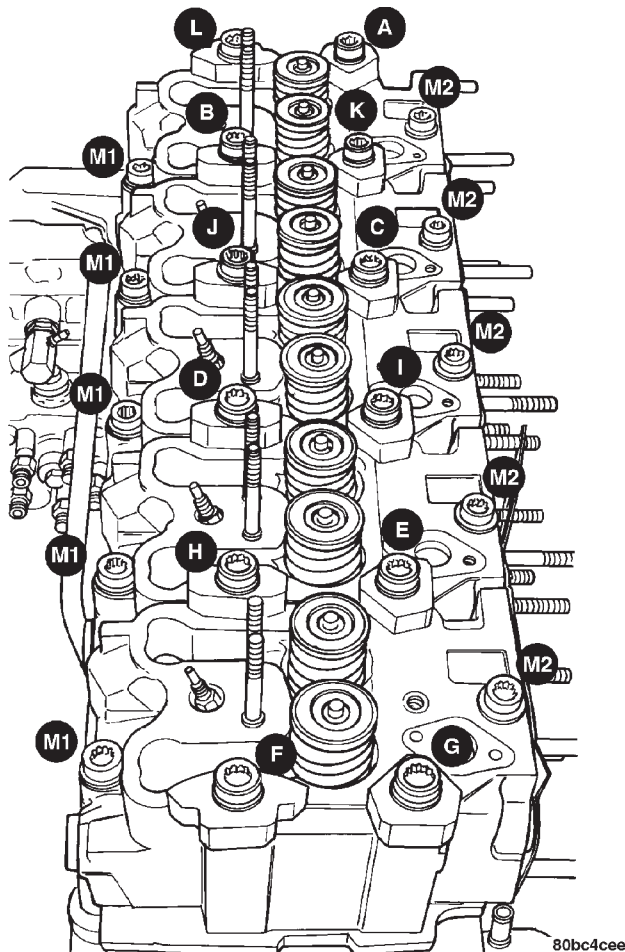

Fig. 67 Engine Cylinder Head Bolt Tightening Sequence
(5) Tighten the engine cylinder head bolts in sequence according to the following procedure (Fig. 67) :
(6) Install the intake and exhaust manifolds with a new gasket, partially tightening the nuts to a maximum of 5 N·m (44 in. lbs.). This will align the heads.
(8) **1st Phase:** Tightening Head Bolts (Fig. 67). Central bolts (A-L): Tighten all bolts, starting with bolt I then J-K-L-A-B-C-D-E-F-G-H, to 30 N·m. Tighten all bolts an additional 70°, starting with bolt A and continuing in alphabetical order. Finally, tighten all bolts an additional 70°, starting again with bolt A and continuing in alphabetical order.
(9) Tighten the 12mm bolts in the following manner:
(10) Side bolts (M1-M2): Tighten M1 bolts to 30 N·m, then rotate them 85° (±5). Tighten M2 bolts to 30 N·m, then rotate them 85° (±5).